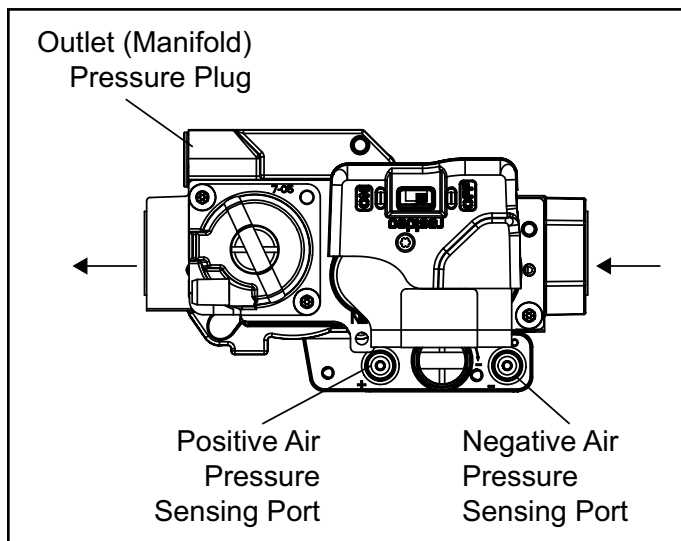

Figure 6. Gas Valve
3. Slide the gas valve switch to the "ON" position (see Figure 6).
2. Slide the gas valve switch to the "OFF" position (see Figure 6).
- a. Slide the gas valve switch to the "OFF" position (see Figure 6).